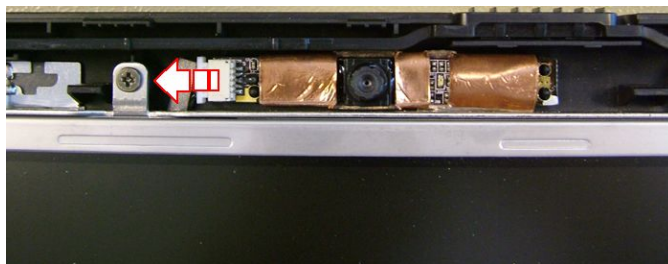

Fig. 29 Location of webcam connector.
1. Disconnect the cable from the webcam (see Fig. 29).